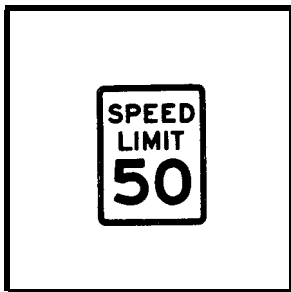

FIGURE 8
c. **Speed Limit Signs.** Speed limit signs are white rectangular signs with black letters and numerals indicating speed limits (Figure 8). The stated limit is the highest speed considered safe under normal traffic conditions when the roadway is dry. This speed should be reduced at night, when traffic is heavy, and during bad weather. Never exceed the posted maximum speed limits. Reduce speed signs may